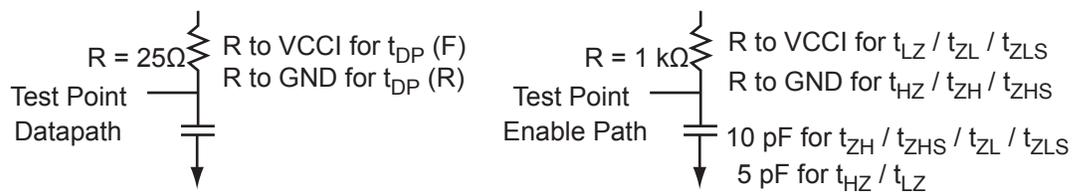

Figure 2-11 • AC Loading
4. Resistance is used to measure I/O propagation delays as defined in PCI specifications. See Figure 2-11 on page 2-64 for connectivity. This resistor is not required during normal operation.
AC loadings are defined per the PCI/PCI-X specifications for the datapath; Microsemi loadings for enable path characterization are described in Figure 2-11.